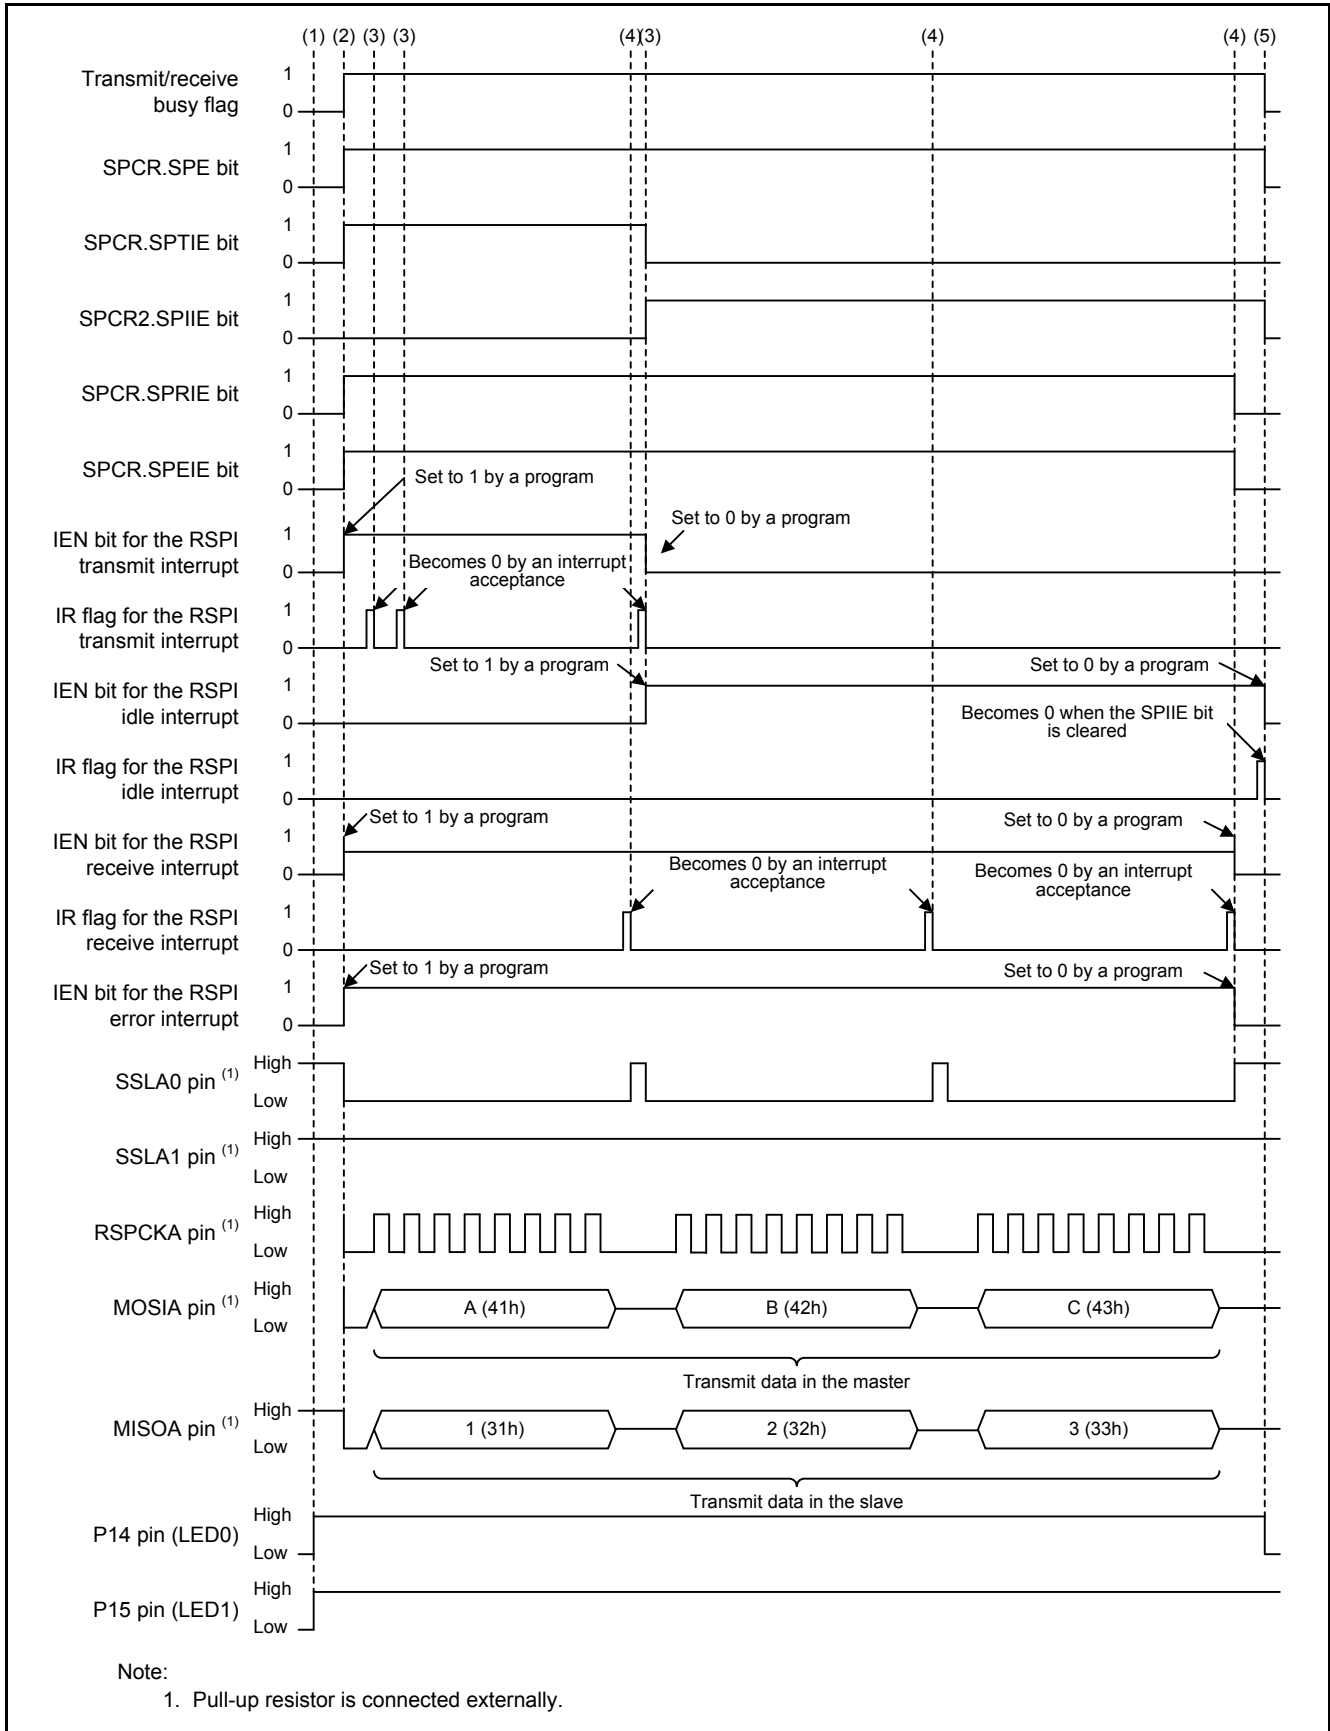
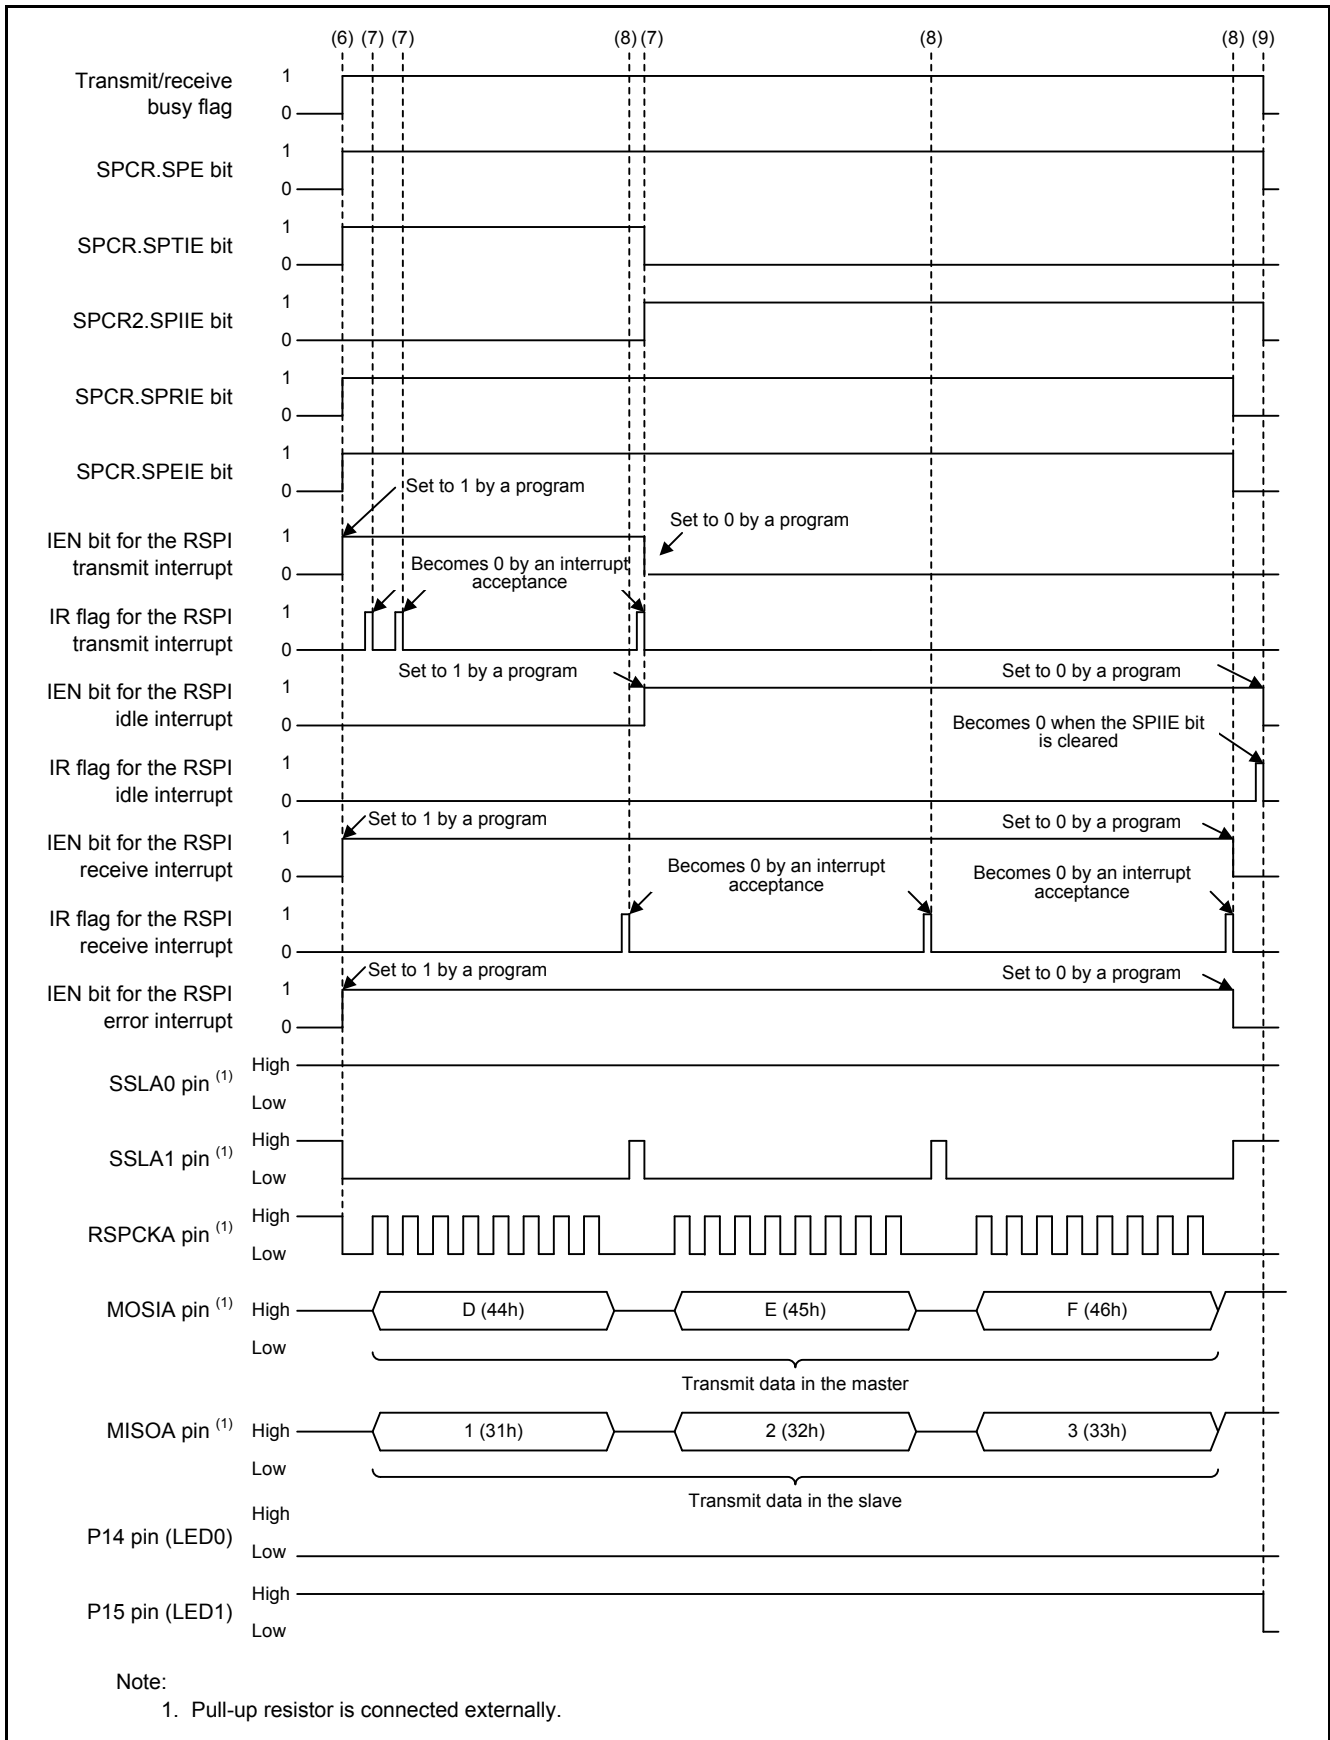

Figure 5.2 Timing of Serial Communication with SPI Operation (Four-Wire Method) when Transmitting to/Receiving from Slave 0
Figure 5.3 Timing of Serial Communication with SPI Operation (Four-Wire Method) when Transmitting to/Receiving from Slave 1
Figure 5.2 and Figure 5.3 show the timing of serial communication with the SPI operation (four-wire method), and (1) to (9) in the figures correspond to numbers in the operation descriptions below.
- (1) Initialization